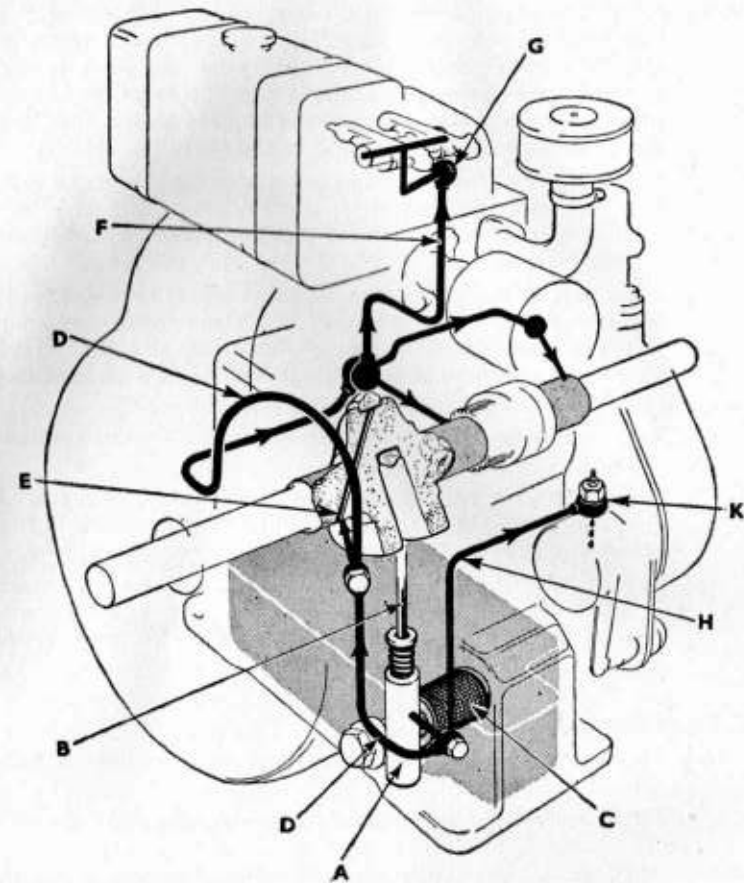

Fig. 8
- (d) Having set the idling speed correctly move the Control Lever into the fully open position, slacken off the Stop Screw Locknut (F) and set the Stop Screw (G) until the appropriate Maximum Speed is obtained. Tighten the locknut again, and replace seal with new locking wire.
54. The Lubricating Oil System (Fig. 8).
- (b) The Plunger type Pump (A) is submerged in oil in the Crankcase at the Flywheel end of the Engine. The Pump is operated by a Push Rod (B) off a Cam on the Camshaft.
- (c) The oil is drawn through a gauze Strainer (C) fitted to the Pump Suction Branch and is delivered through a drilled Oil-way in the Crankcase to the external Delivery Pipe (D).
- (e) Oil under pressure reaches the Main, and Extension Shaft Bearing through the external Delivery Pipe. The Large End Bearing is lubricated through a drilled hole (E) in the Crankshaft from the Flywheel End Main Bearing.
- (f) The external Delivery Pipe (F) supplies the Rocker Gear through the Restrictor Banjo (G), return being via the Push Rod compartment in the Cylinder Block.
- (h) The governor gear is lubricated by oil passing through the restrictor (K) from pipe (H).